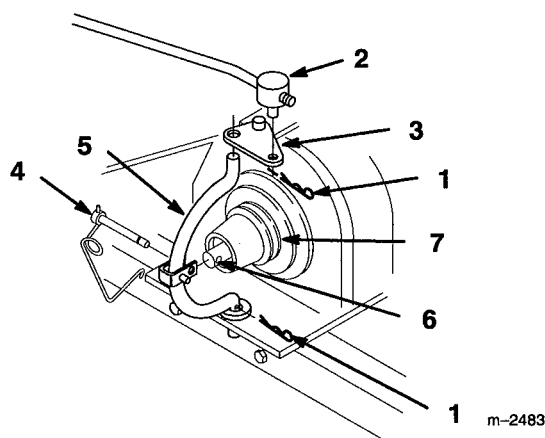

Figure 14
3. Remove hairpin cotter and trunnion from power take off PTO engagement plate (Fig. 14).
4. Unlatch and remove clevis pin that secures yoke assembly to clutch shaft and pivot forward to remove from engagement plate (Fig. 14).
5. Install belt from between clutch yoke and engagement plate (Fig. 14).
6. Assemble yoke and engagement plate and attach clevis pin, trunnion and hairpin cotter to secure (Fig. 14).